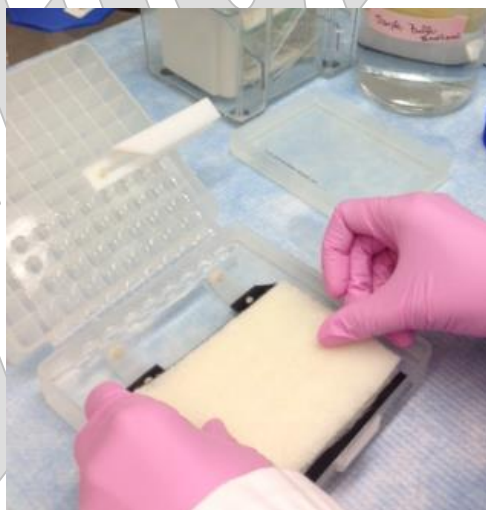

Figure 7h
5.4.7. Now place the presoaked sponge on top to finish the assembly of the sandwich. Roll out any air bubbles as described above. (Figure 7h)